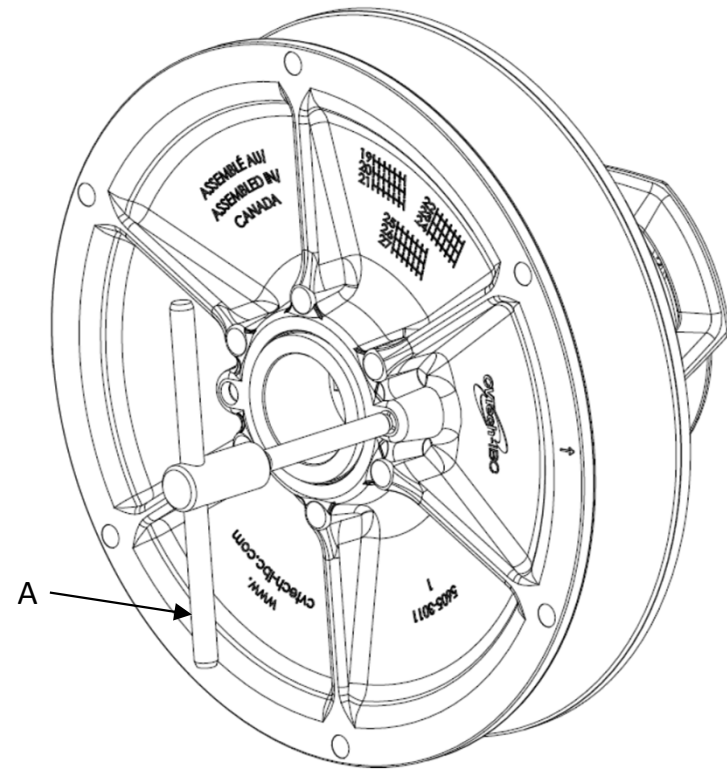

Figure 13
- If the drive belt is installed, screw the flange spreader "A" in the threaded hole, as shown in figure 13, to remove the drive belt.